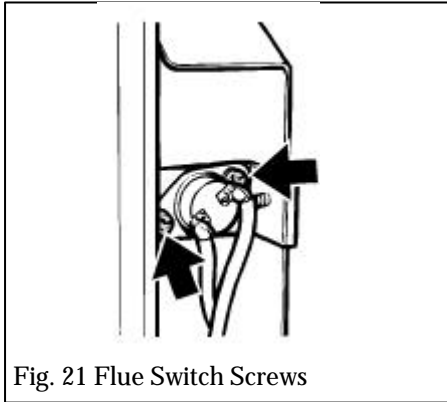

Fig. 21 Flue Switch Screws
16.12.3 Detach the flue switch from the right side of the downdraught diverter by removing two screws (Fig. 21).
16.13.11 Detach the flue switch from the right side of the downdraught diverter by removing two screws (Fig. 21). Carefully pull the switch through the hole in the back panel.